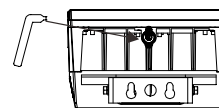

FIGURE 13
1. Remove the fixture from the box, and insert the included tool into the slot within the adjustment knob. (FIG 13)